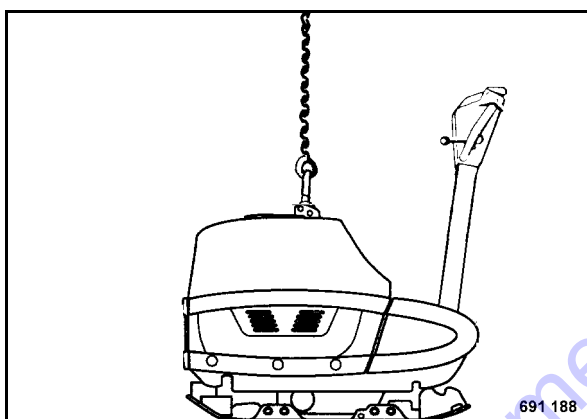

Fig. 43
- Always attach the lifting gear (rope) to the lifting eye to load the vibratory plate (Fig. 43) on a transport vehicle.